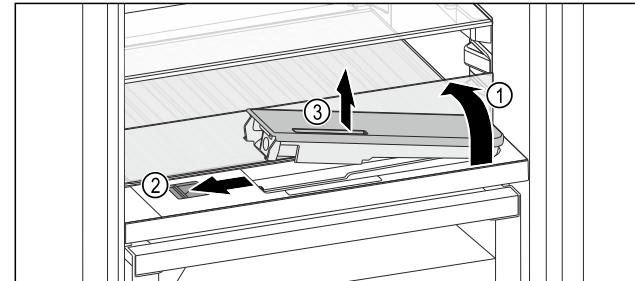

Fig. 151
- Lift the glass panel and fold towards the rear until it clicks into place *Fig. 151 (1)*.
- Slide the slider *Fig. 151 (2)* to the left.
- Remove the water tank *Fig. 151 (3)*.